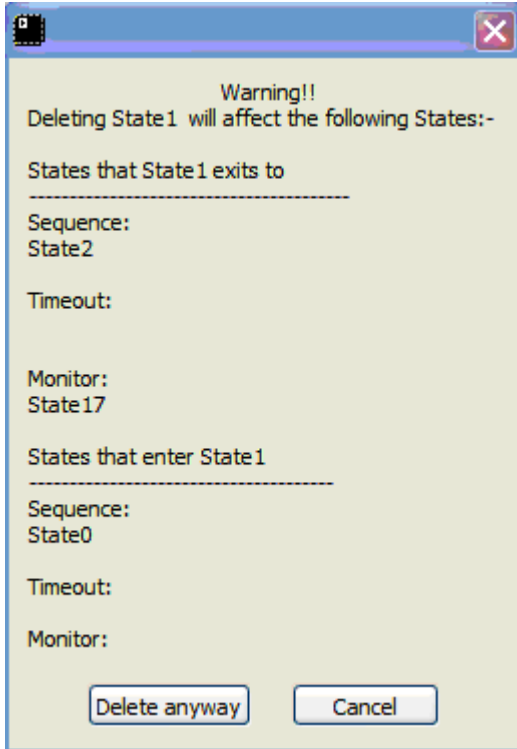

Figure 59. Delete report dialog box
**Delete a State**- Because deleting a state may affect other states (Due to it referring to other states, or other states referring to it), a dialog box containing a report of the affected states as shown in *figure 59* is generated by the software.